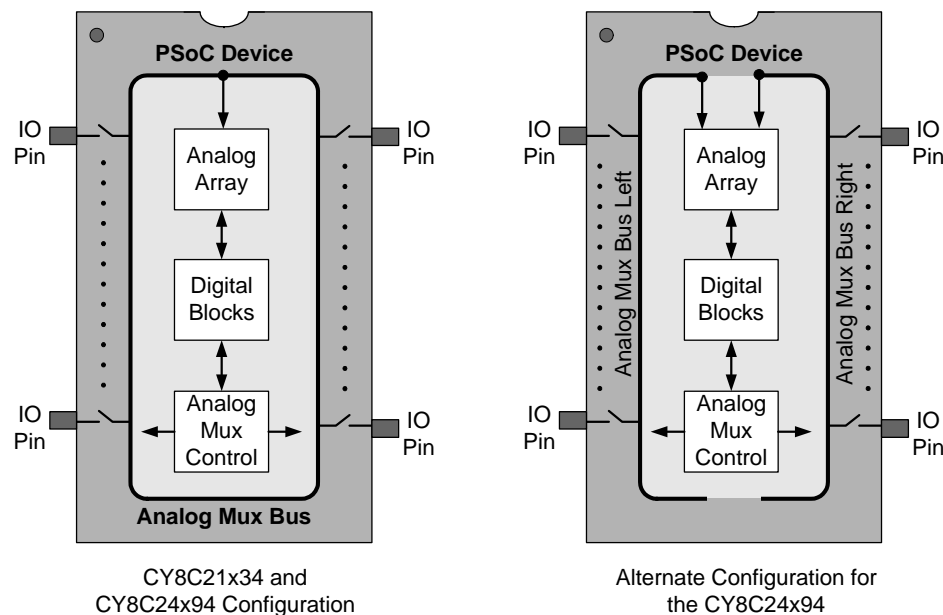

Figure 33-1. Analog Mux System for the CY8C24x94, CY8C21x34, CY8C21x34B, CY7C64215, CY7C603xx, and CYWUSB6953
Any number of pins can be connected simultaneously, and dedicated support circuitry allows selected pins to be alternately charged high or connected to the bus. The analog bus can be connected as an input into either the positive or negative inputs of any analog continuous time (CT) block. A block diagram is shown in Figure 33-1.
In the CY8C24x94 and CY7C64215 PSoC devices, the Analog Mux Bus can be split into two separate nets, as shown in Figure 33-1. The two analog mux nets can be connected to different analog columns for simultaneous signal processing.
The analog bus forms a multiplexer across many IO pins. This allows any of these pins to be brought into the analog system for processing, as shown in Figure 33-1. The Port 0 pins are also brought through separate mux paths to the continuous time block, so Port 0 inputs can be routed to the analog system by either path. In the CY8C24x94 and CY7C64215, some Port 2 inputs have a dedicated path to switched capacitor blocks.
The bidirectional nature of the analog mux switches allows a direct connection between any of the IO pins, as shown in Figure 33-1. Enabling two (or more) pins at the same time connects these pins together, with approximately 400 ohms of resistance between each pin and the analog mux bus. As long as the clock choice in the AMUX\_CFG register is set to the fixed '0' case, the switches will be static, controlled only by the state of the individual switch enable bits in the MUX\_CRx registers. The crosspoint can be reconfigured at any time and the user can provide a break-before-make function with firmware if needed.